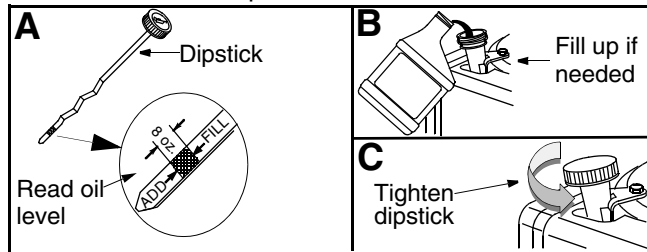

Figure 10
- With engine on level ground, oil must be to FULL mark on dipstick. See Figure 10.